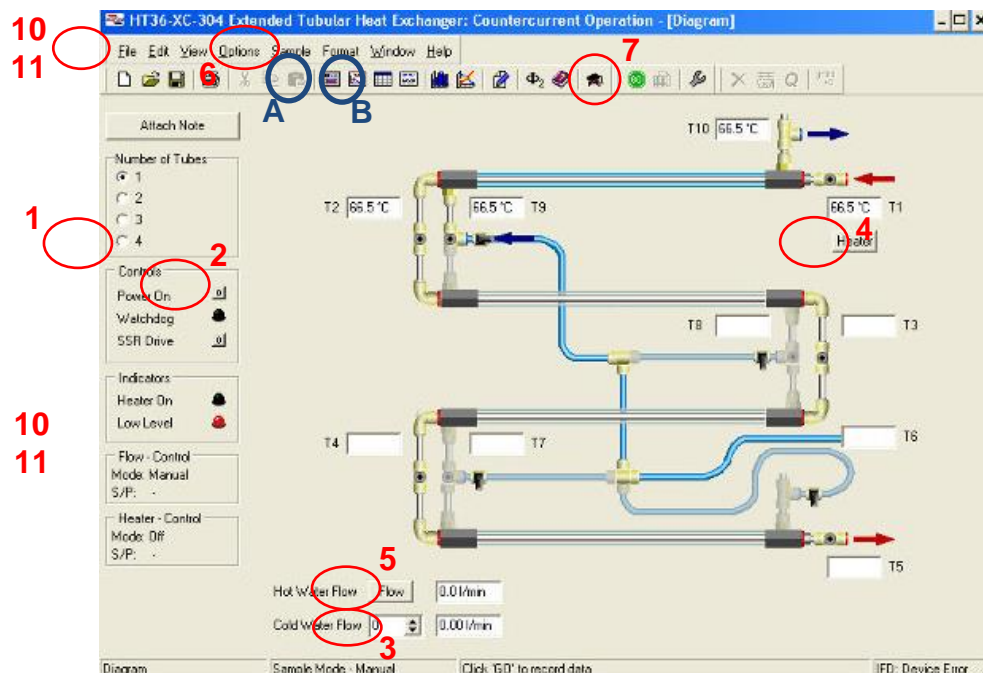

Figure 4: Software mimic diagram display (Armfield, 2010)
- f. Allow the temperatures at different stages of the heat exchanger to stabilise by monitoring it closely on the “mimic diagram display” (marked by “A” on figure 4 below). Then select “Sample Configuration” from the “Sample” menu on the top toolbar and select: